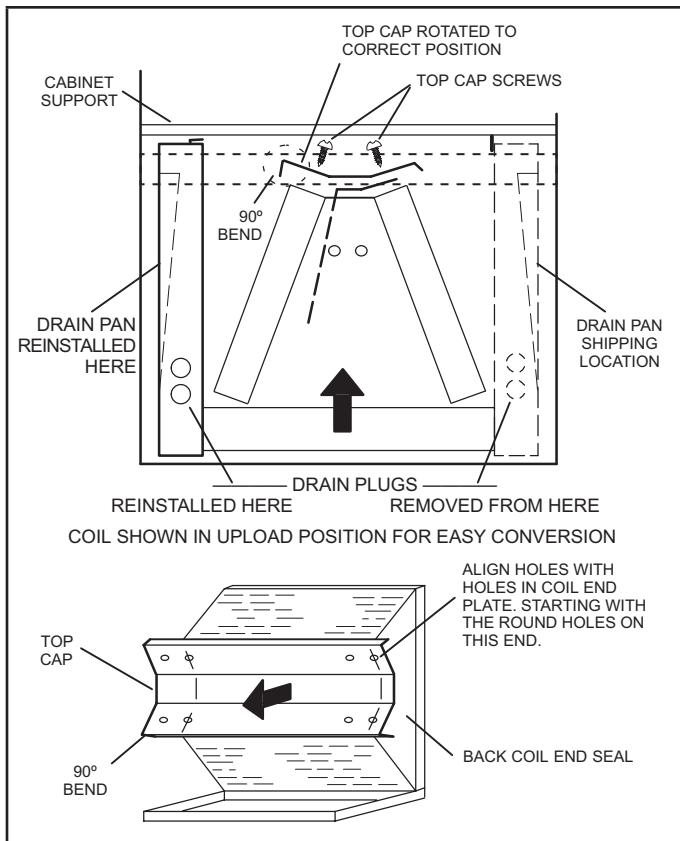

FIGURE 6. Field Modification for Left-Hand Discharge
- 7 - Rotate top cap 180° front-to-back and align with unused screw holes. Holes must align with front and back coil end plates. The top cap has a 45° bend on one side and a 90° bend on the other. **The 90° bend must be on the same side as the horizontal drain pan** as illustrated in figure 6.
NOTE - Horizontal runs must have an anti-siphon air vent (standpipe) installed ahead of the horizontal run. See figure 6. An extremely long horizontal run may require an oversized drain line to eliminate air traps.